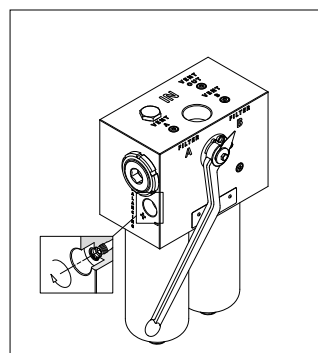

fig. 5
- (Fig. 5) Close the balancing valve by screwing it towards the “+“ sign